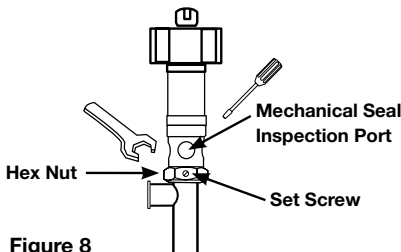

Figure 8
2. Loosen set screw on side of hex nut (see Figure 8).
3. Place a screwdriver (or similarly shaped object) in the mechanical seal inspection port (see Figure 8).
4. Use a large wrench to loosen the hex nut while simultaneously holding the screwdriver in the seal inspection port (see Figure 8).
10. Tighten the hex nut on the pump body to the bearing housing. Use screwdriver (or similarly shaped object) in the mechanical seal inspection port (see Figure 8).
11. Use a large wrench to tighten the hex nut while simultaneously holding the screwdriver in the seal inspection port (see Figure 8).